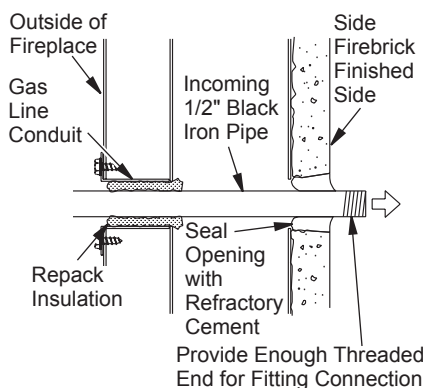

Figure 23 - Gas Line Installation
3. Run a 1/2" black iron gas line into fireplace through rear at gas line conduit sleeve (if using a raised platform, add height). Provide sufficient gas line into fireplace chamber for fitting connection (see Figure 23).